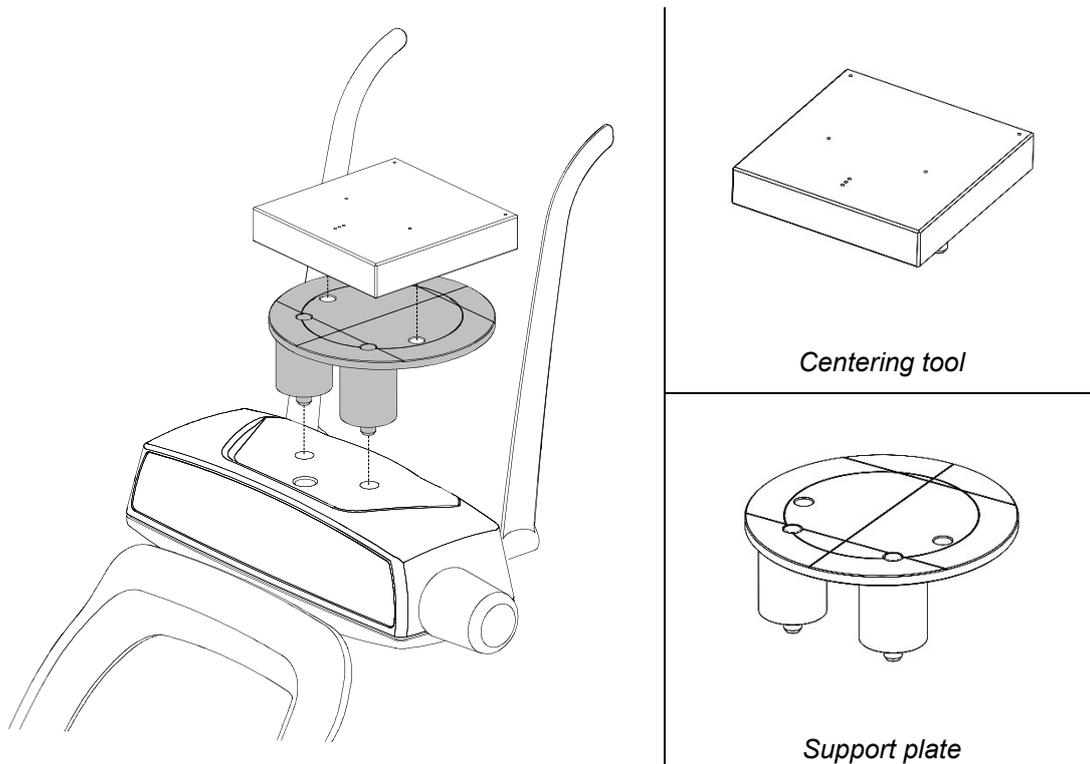

Figure 6: Support plate and centering tool positioning
At the end of the axis positioning, place the support plate (Figure 6) on the chin rest support and power ON the laser. Check that the mid-sagittal laser beam is aligned to the reference line of the support plate ($\pm 3\text{mm}$).
5. Mount the centering tool on the support plate and place it on the chin rest support (Figure 6).